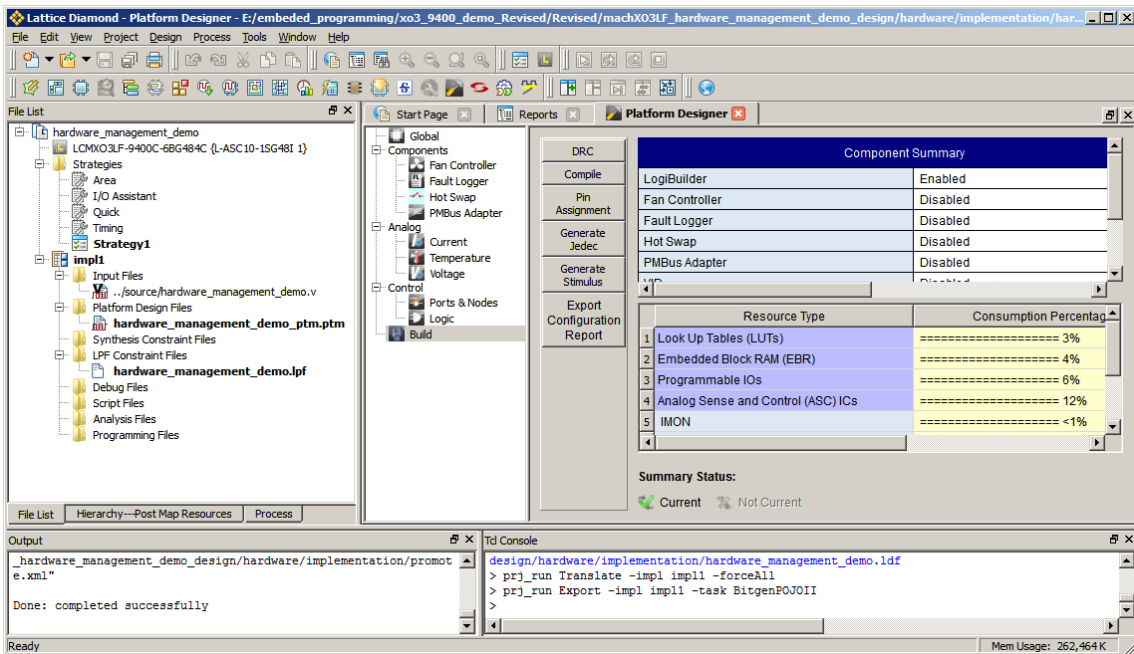

Figure 9.6. Generating the Bitstream
- Close Spreadsheet View and click **Generate Jedec** as shown in Figure 9.6. The software reports “Done: completed successfully”.